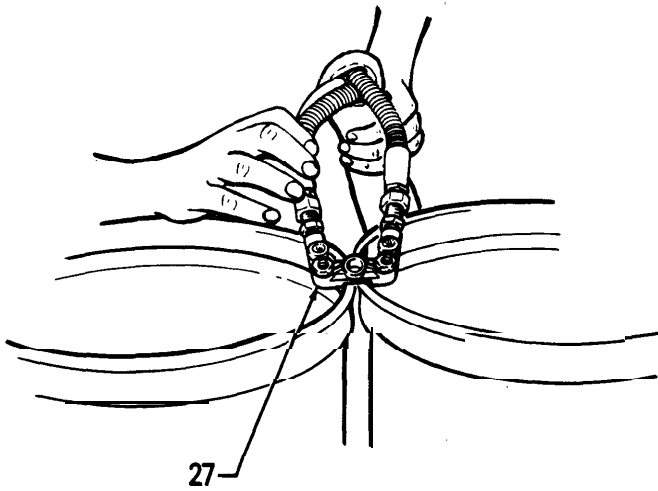

Fig 17
i. Open the feed pump air valves (8). Refer to the Typical Installation.
(1) With the gun disconnected from the manifold, hold the manifold (27) so each outlet port is directly over a separate waste container as shown in Fig 17.